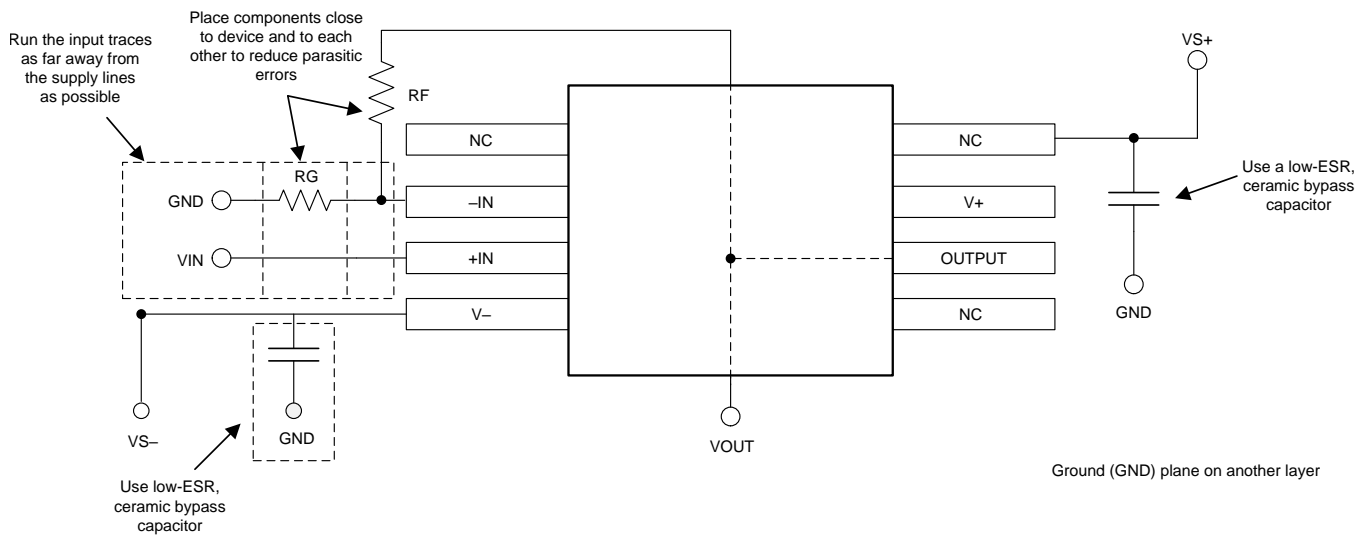

图 34. Op Amp Board Layout for a Noninverting Configuration
- Place the external components as close to the device as possible. As illustrated in Figure 34, keeping R_F and R_G close to the inverting input minimizes parasitic capacitance.